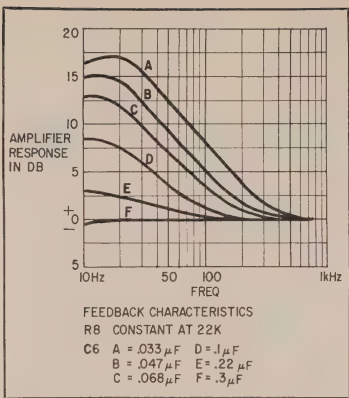

Fig. 4—Frequency response of FET preamp for various values of capacitor C6.
- C6—feedback capacitor—see text and Fig. 4
- Q1—2N2498 (TI)
- Q2—2N930 (TI)
R8 and C6 in the schematic are feedback components. The value of R8 sets the total value of feedback voltage—the value given in Fig. 4 furnishing approximately 17 dB. The value of C6 determines the shaping of the feedback
frequency characteristics or, in other words, the output frequency response. Fig. 4 shows the effect of various values of C6 on this response. If you prefer a high bass boost, you will select a low value of C6—A, for instance. If you prefer a lower bass boost, you will select a higher value of C6—B through F.